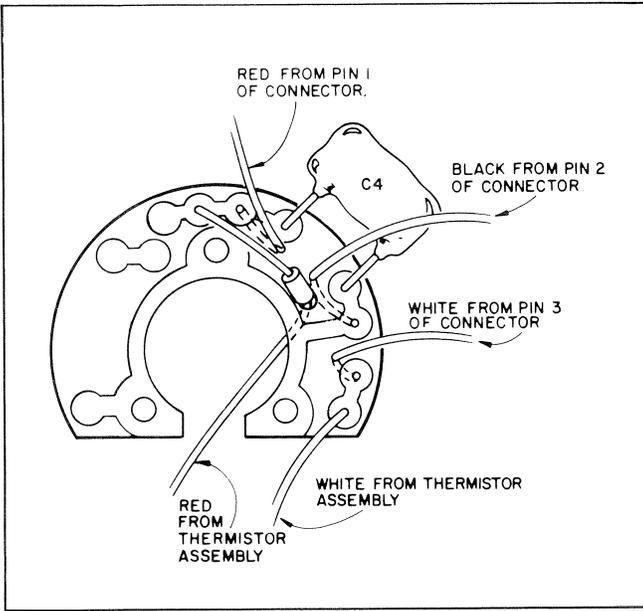

Figure 10. HP Model 478A Printed Circuit Assy Wiring
a. Referring to Figure 10, connect the three wires from receptacle connector to printed circuit assembly.
c. Pass the red wire from the thermistor assembly through the hole indicated in Figure 10. Do not connect to printed circuit assembly at this time.
Page 10, Figure 10:
Replace Figure 10 with Figure A-9.